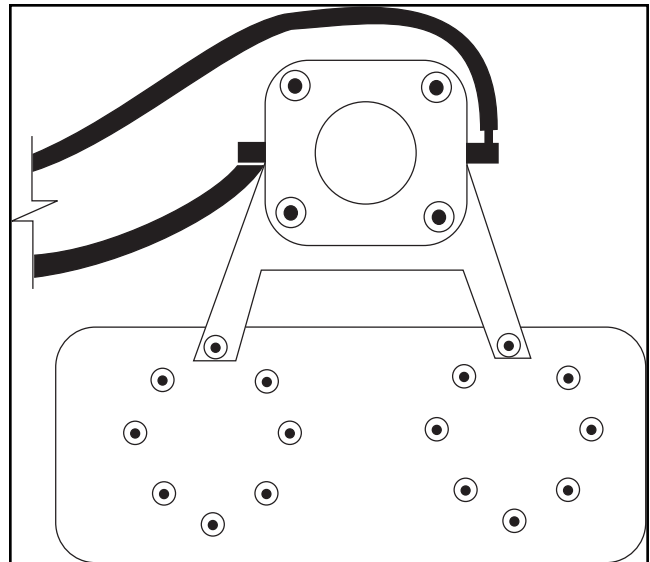

Fig. 2
6. Slide the hoses onto the fittings and secure with the provided cable ties. (Fig. 2)
8. Install the K&N Adapter top onto the K&N Adapter base plate (Fig. 2) using the provided gasket and screws.